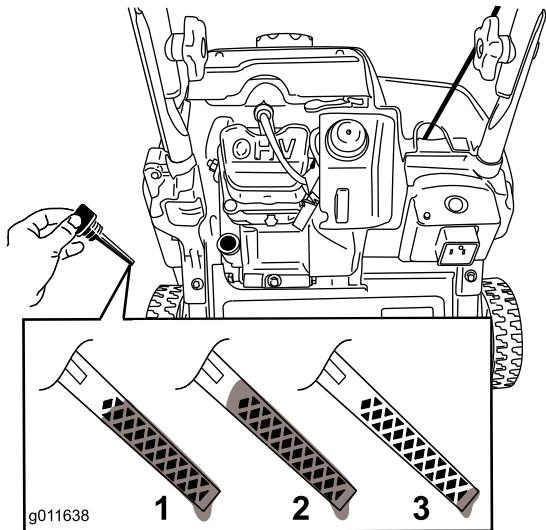

Figure 15
8. To determine the proper oil level on the dipstick, refer to Figure 15.
**Note:** Fill the engine crankcase with oil until the dipstick indicates that the engine oil level is correct as shown in Figure 15. If you overfill the engine with oil, remove the excess oil as directed in Changing the Engine Oil.